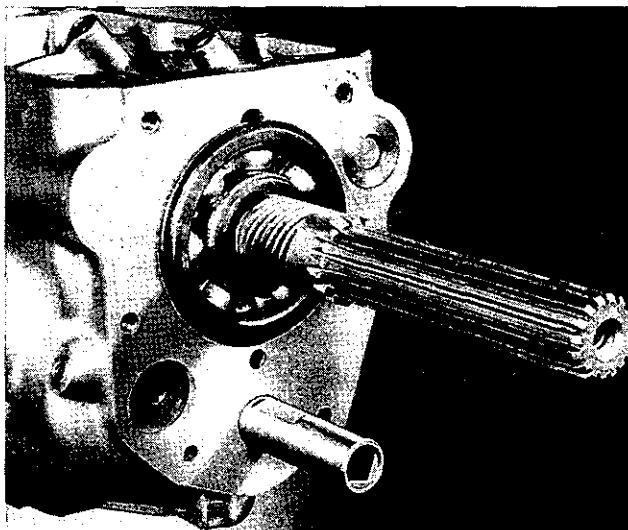
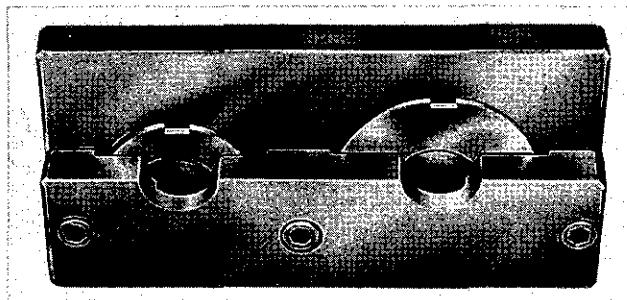

Fig. 5. Needle roller retainer tube—Churchill Tool No. 20SM-77
Fig. 16. Gauging countershaft thrust washers with Churchill Fixture No. 20SM-82
9. After removal of the countershaft front cover plate which is secured by two wired setscrews and spring washers ( $\frac{1}{16}$ " A/F spanner) drive out the countershaft, with a suitable tube, as shown in Fig. 5 to retain the 48 needle rollers in position, maintaining contact throughout between the tube and countershaft.
7. Having fitted rollers, apply retainer, as shown in Fig. 5, and after locating the front thrust washers with the countershaft (Fig. 15) and the smaller one with grease—position the assembly in the casing. Before fitting new thrust washers gauge these as shown in Fig. 16. The correct end float for the countershaft gears should be between .006"—.010". If there is insufficient end float, the distance collar should be reduced as necessary by rubbing this down on a piece of emery cloth placed on a surface plate. Where too much end float exists new thrust washers and/or distance piece should be fitted.